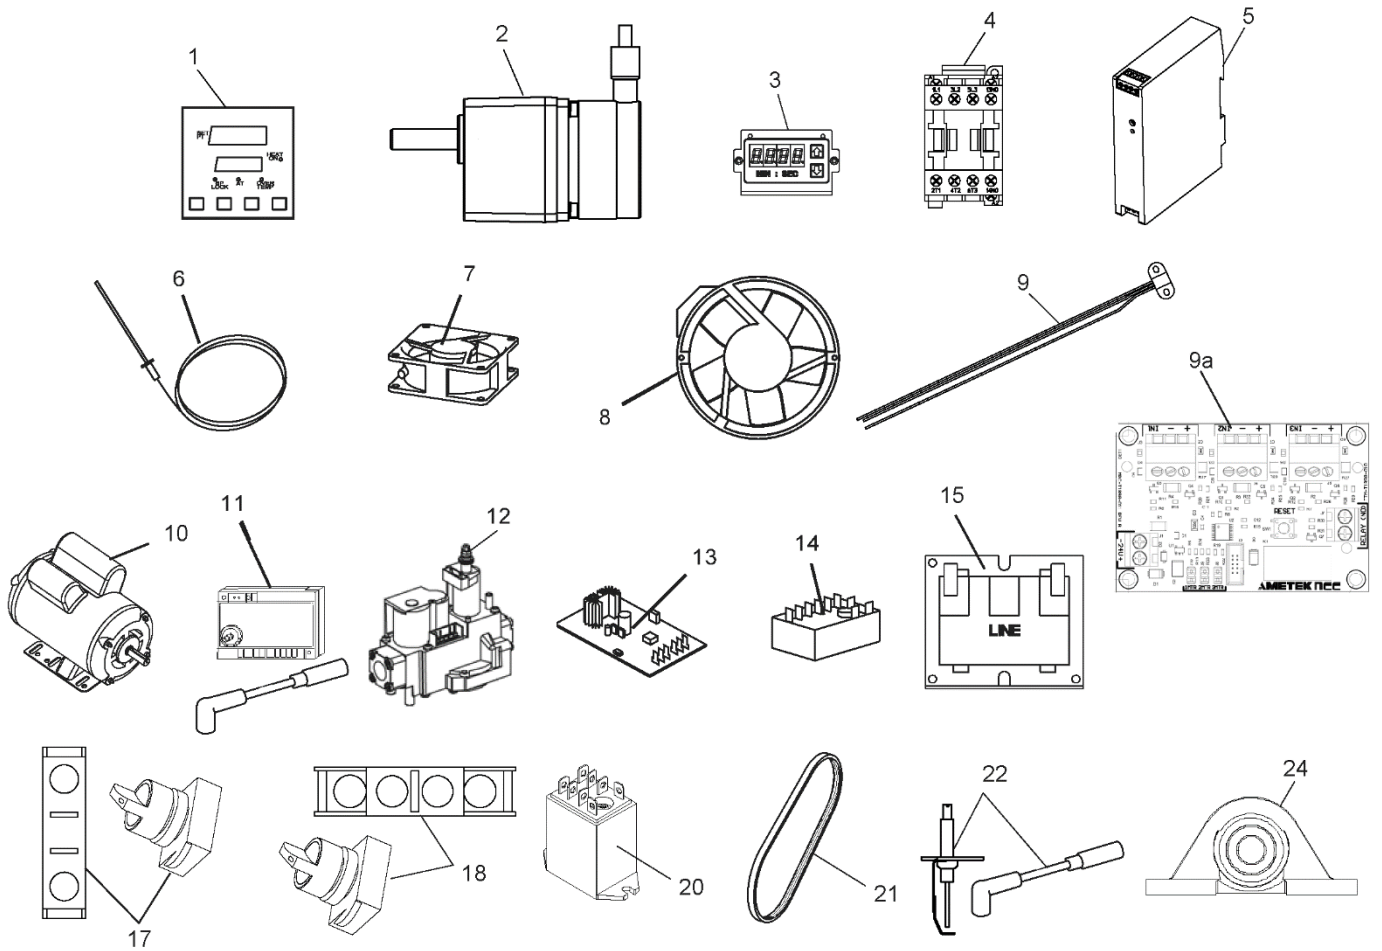

Figure 32.
Replacement parts can be purchased from your Middleby Marshall Authorized Parts Distributor (See Figure 32).
**PS3240G-SERIES GAS OVEN KEY SPARE PARTS (Figure 32)**